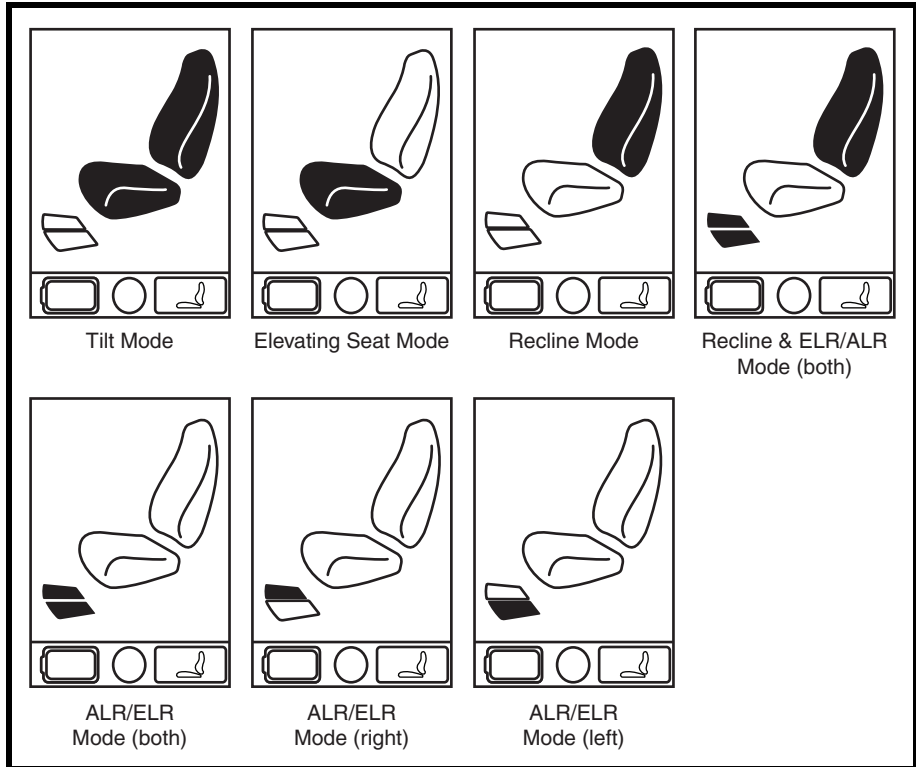

Figure 1. Actuator Selection
2. Push the On/Off and Mode Select Lever up several times until the seat screen is displayed on the LCD or push the key 2 select button once to go directly to actuator mode.
3. Push the joystick to the left or right to cycle through the available actuators until the desired actuators are illuminated on the actuator indicator. **See figure 1.**